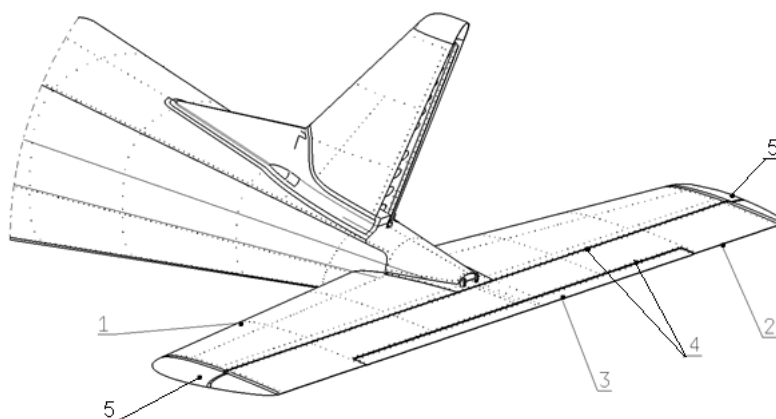
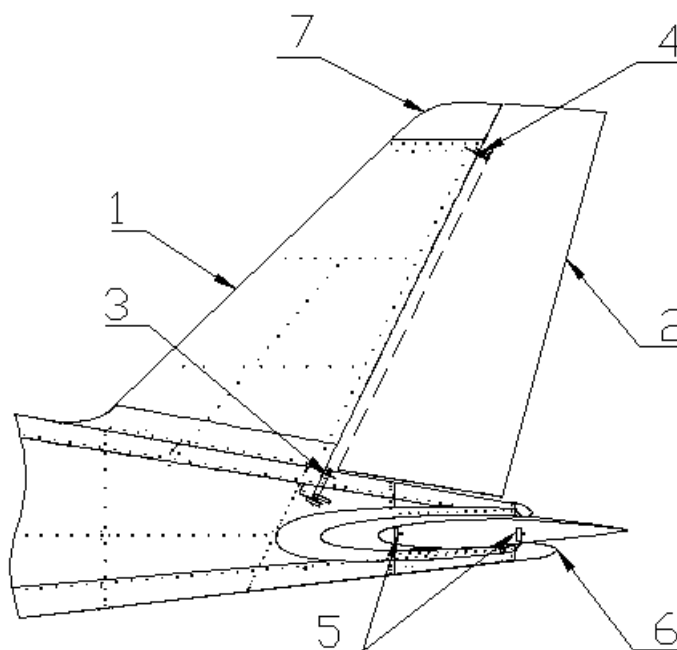

Fig. 5-1
Fig. 5-2
Horizontal stabilizer (1) (see Fig. 5-1) is of the all-metal structure consisting from two aluminum spars, eight ribs and aluminum skins. The elevator is attached to the rear spar by means of piano hinge (4). The horizontal stabilizer is mounted on the fuselage by means of front and rear attachments (5) (see Fig. 5-1). The front attachments consist of two pins, which are riveted on bulkhead No. 13 and bushings riveted on front stabilizer spar. The rear attachments consist of four hinges bolted on top and bottom part of bulkhead No. 14 and riveted on rear stabilizer spar.
Elevator (2) (see Fig. 5-1) is all-metal structure and consists from aluminum skin and ribs. Individual parts are assembled by riveting. Control lever is riveted between middle elevator ribs. Fiberglass elevator tips (5) are riveted at the both elevator ends. The elevator is equipped with the trim tab (3), which is hinged by means of the piano hinge on the rear spar close to the trailing edge of the elevator. The trim tab is made from aluminum sheet.
- (d) Remove fiberglass covers (6) (see Fig. 5-2).
- (f) Install the fiberglass covers (6) on bulkhead No.14 (see Fig. 5-2).
- (b) Disconnect the trim tab actuator wires (3).
- (c) Remove the fiberglass cover (6) (see Fig. 5-2).
- (e) Disconnect piano hinge (4) (see Fig. 5-1).
- (c) Insert pin in piano hinge (4) (see Fig. 5-1).
- (e) Connect the trim tab actuator wires (3).
- (f) Install the fiberglass covers (6) (see Fig. 5-2).